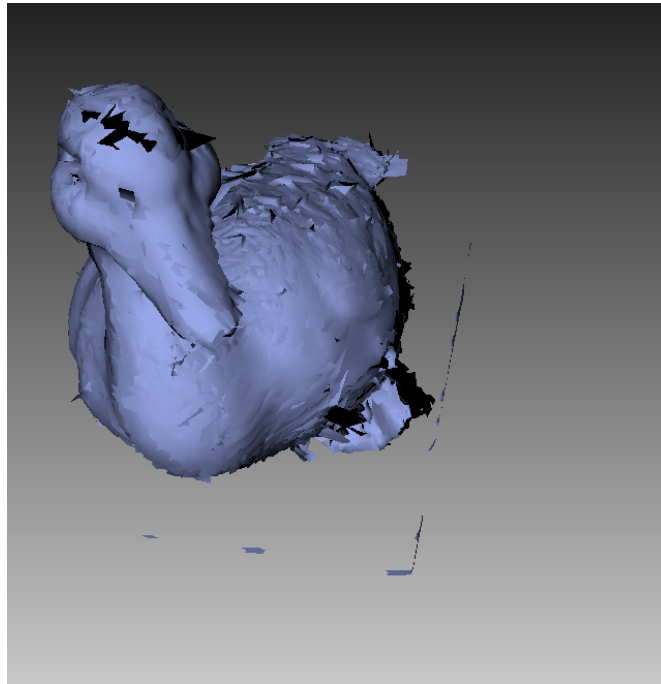

Figure 8.34.: Alignment result.
4. Click *Align...* to run the alignment with your specified constraints (Figure 8.34. shows example results). If you are dissatisfied with the alignment results, click ↶ and specify additional point sets, or reposition the current sets. To redo an operation that you have undone, click ↺.